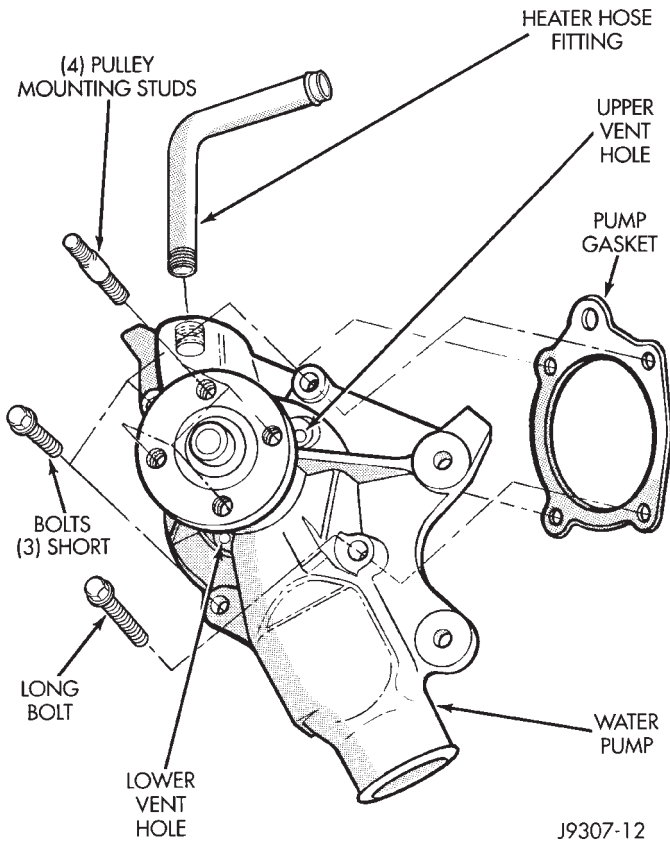

Fig. 22 Water Pump Remove/Install—Typical
- (6) Remove lower radiator hose from water pump. Remove heater hose from water pump fitting.
- (7) Remove four nuts previously loosened and remove the fan blade assembly and pulley.
- (8) After removing fan blade/viscous fan drive assembly, **do not** place thermal viscous fan drive in horizontal position. If stored horizontally, silicone fluid in viscous fan drive could drain into its bearing assembly and contaminate lubricant.
- (9) Remove the four pump mounting bolts (Fig. 22) and remove pump from vehicle. Discard old gasket. Note that one of the four bolts is longer than the other bolts.
- (10) If pump is to be replaced, the heater hose fitting must be removed. Note position of fitting before removal.